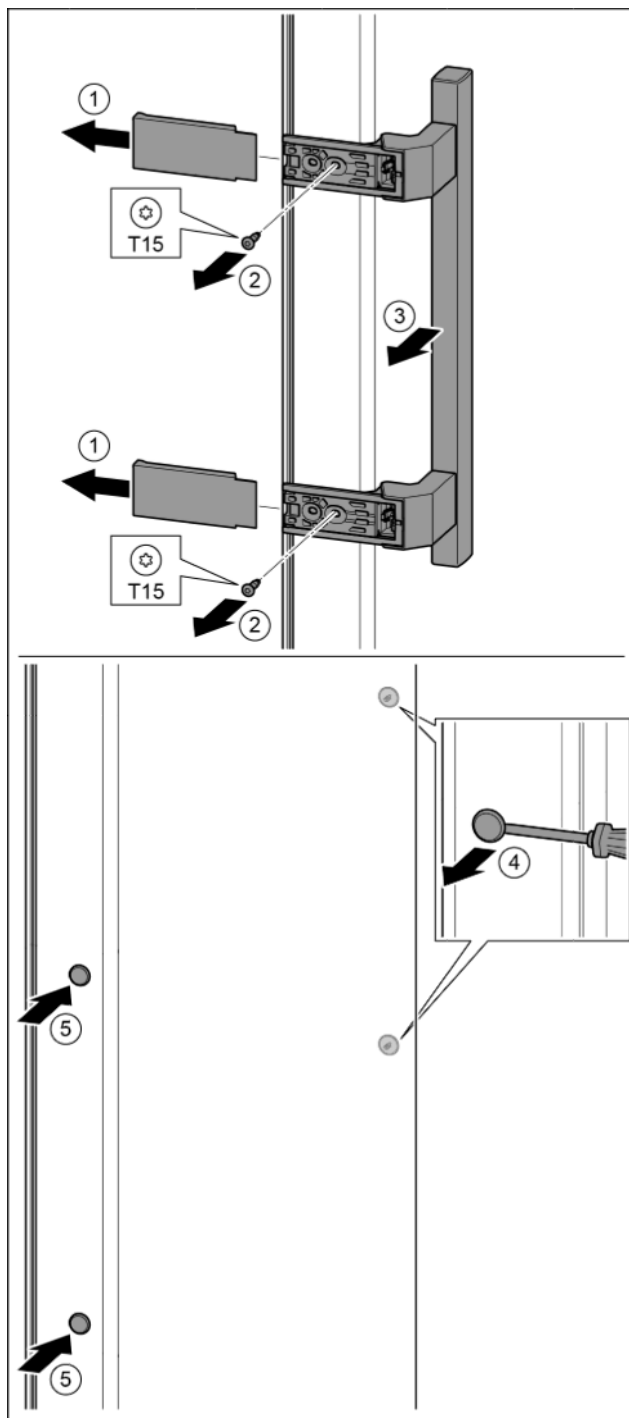

Fig. 14
- Remove the cover. Fig. 14 (1)
- Remove the screws with the T15 screwdriver. Fig. 14 (2)
- Remove the handle. Fig. 14 (3)
- Carefully lift up the plugs and remove them with a slotted screwdriver. Fig. 14 (4)
- Insert the plugs again on the other side. Fig. 14 (5)